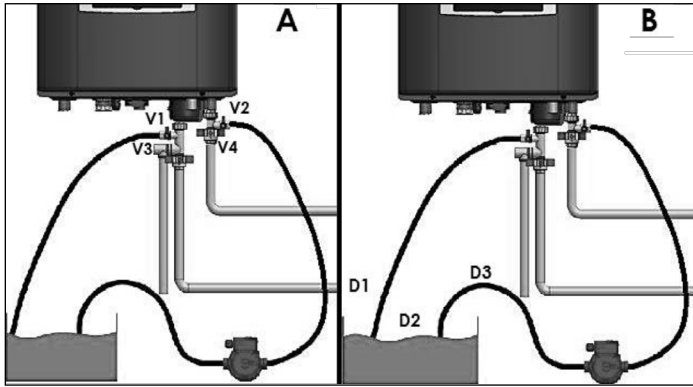

Figure 57 - Flushing the DHW Loop
2. Close the shutoff valves on both hot water outlet and cold water inlet lines (V1 and V2). See Figure 57-A.
3. Connect one hose (D1, Figure 57-B) to the valve (V3) and place the free end in a bucket. Connect one of the hoses (D3) to the circulation